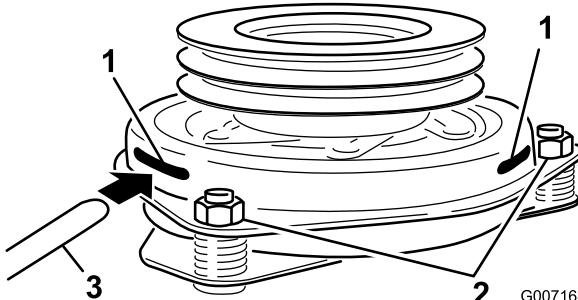

Figure 63
assembly. Make sure it is between the armature and the rotor friction surfaces (Figure 63).
- Tighten the lock nuts until there is slight binding on the feeler gauge but it can be moved easily within the air gap (Figure 63).